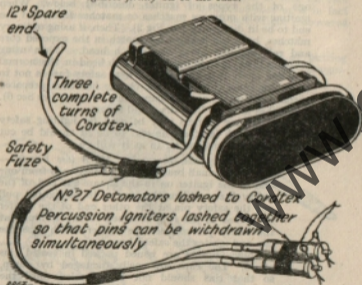

Fig 6. No. 75 grenade prepared as a demolition charge
(b) *Initiation*.—The grenade will be initiated by wrapping three turns of detonating fuze (see Sec 5) round the end containing the primer, as shown in Fig 6. It is NOT to be detonated by the igniter set supplied for use when it is employed as an anti-tank mine. If an attempt is made to initiate it with detonator and safety fuze or detonating fuze in one of the normal detonator holes, failures up to 50 per cent may result. There are two reasons for this. First, when the detonator is fired by the igniter set (i.e. when in use as an anti-tank mine), the pressure on the plate tends to press the detonator down on to the priming charge. This does not occur when the grenade is used as a demolition charge. Secondly, the safety fuze may contract in length as it burns and draw the detonator back so that it is not directly over the priming charge when it explodes.
(a) *Inserting safety fuzes into detonator.*—Cut one end of the fuzes with a sharp knife on a hard surface, taking care to make a clean cut; take a detonator from the box and empty any sawdust or other foreign matter out of it by tapping on the thumbnail. Insert the squared end of the safety fuzes into the detonator and push it gently but firmly as far as it will go. Do NOT employ any screwing action. Hold the safety fuzes between the third finger and thumb and crimp the detonator on to the fuzes near the open end with a pair of crimping pliers, holding the detonator in place with the forefinger while doing so (see Fig 6); or use the square spike of a jack knife. The use of the teeth is not recommended. NEVER CRIMP THE DETONATOR NEAR THE CLOSED END.
- Igniter, safety fuzes, percussion M3* (see Fig 6).—Crimp the small brass tube which extends from one end of the igniter on to the square-cut end of the safety fuzes. When the fuzes is to be lighted pull out the safety pin at the other end of the igniter by means of the ring attached to it. Pulling out the safety pin releases the striker which fires the cap and ignites the safety fuzes. These igniters are issued packed in sealed tins of 10. The caps are easily damaged by damp, so that tins should not be unsealed until the igniters are to be used. Always use up all the igniters in one tin before opening another. Keep the tin shut when not in use.
All ranks concerned must understand the possible causes of failure and must also realize that however much care is taken, no initiating set can ever be guaranteed as 100 per cent certain. The set cannot be tested, as the only test is to fire it. Consequently on all important demolition work, particularly assault work, and preferably *always*, TWO INITIATING SETS SHOULD BE USED. This gives a reasonable guarantee against failure. The use of two sets, whatever the importance of the job, is a good habit to form (see Fig 6).
(e) *75 Grenade.*—The 75 grenade has a special primer incorporated in it and is initiated with 3 turns of cordtex round the end opposite the filler cap as shown in Fig 6.